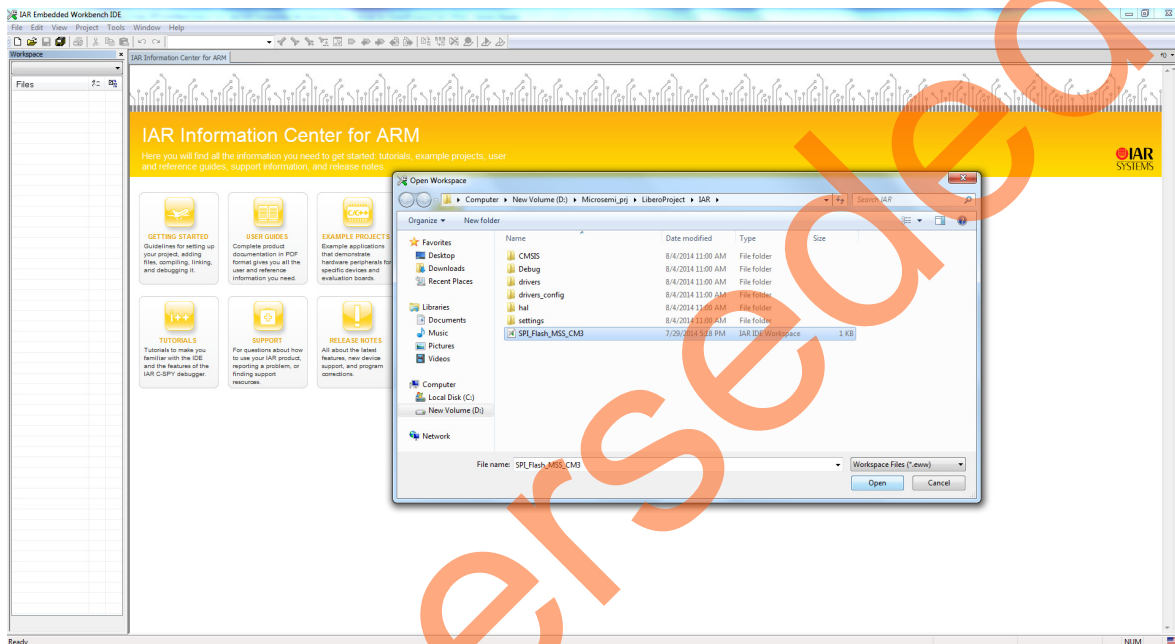

Figure 20 • Invoking IAR Embedded Workbench from the Libero SoC Software
2. Open the IAR project by double-clicking **SPI_Flash_MSS_CM3** IAR project as shown in Figure 20.